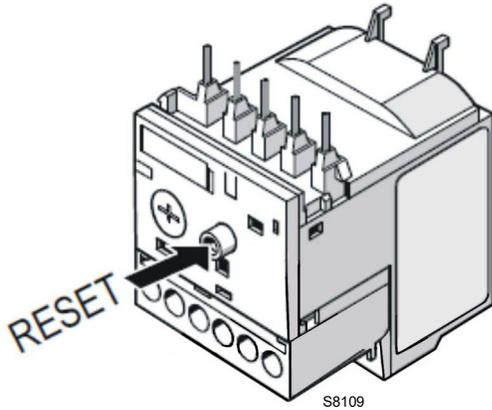

Fig. 30
- To reset, in the case of an intervention of the thermal relay, press the button "RESET" (Fig. 30).